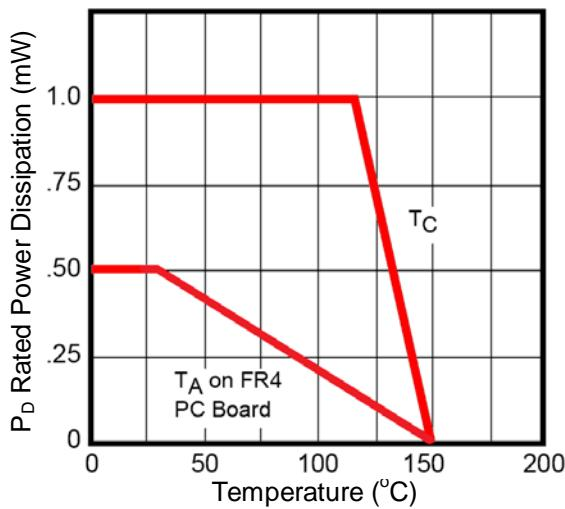

FIGURE 2 - Power Derating Curve
- At $T_c \leq 120$ °C where T_c is case bottom temperature at mounting plane, or 0.5 watts at $T_A = 30$ °C (ambient temperature) when mounted on FR4 PC board as described for R_{QJA} (also see power deratings in figure 2).